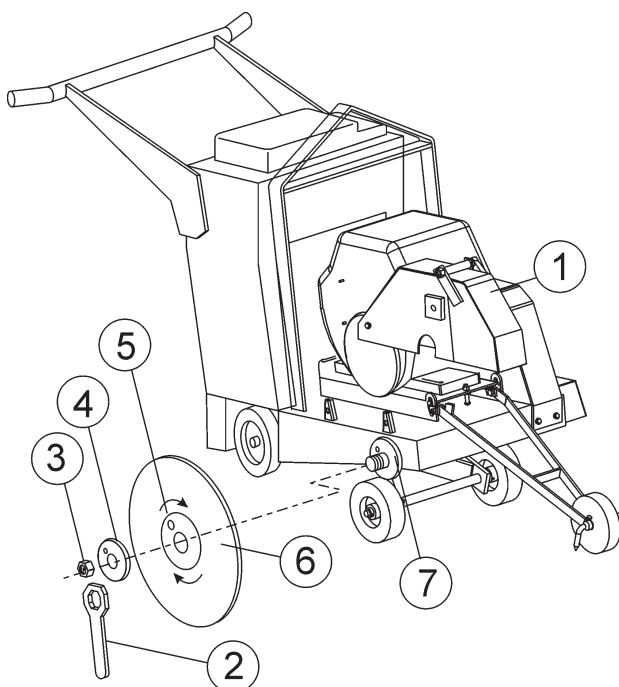

Figure 12. Diamond Blade Placement
- Reference Figure 12 (Diamond Blade Placement) when removing or installing the diamond blade.
2. **Blade Nut Wrench** – Remove the blade nut wrench (3) from the tool holder and unscrew the blade shaft nut (right-side). This nut **loosens clockwise** and **tightens counterclockwise**.
3. **Blade Nut** – Remove the blade nut (4). For reassembly, **DO NOT** over tighten the blade nut against the outer flange. Tighten blade nut approximately 62-69 N/m. (45-50 ft-lbs)
4. **Outside Blade Flange (Collar)** – Ensure that the flange face is clean and free of debris and is placed flush against the diamond blade (7). Check that the drive pin goes through the blade pin hole (6) and seats properly into the inner flange (8).